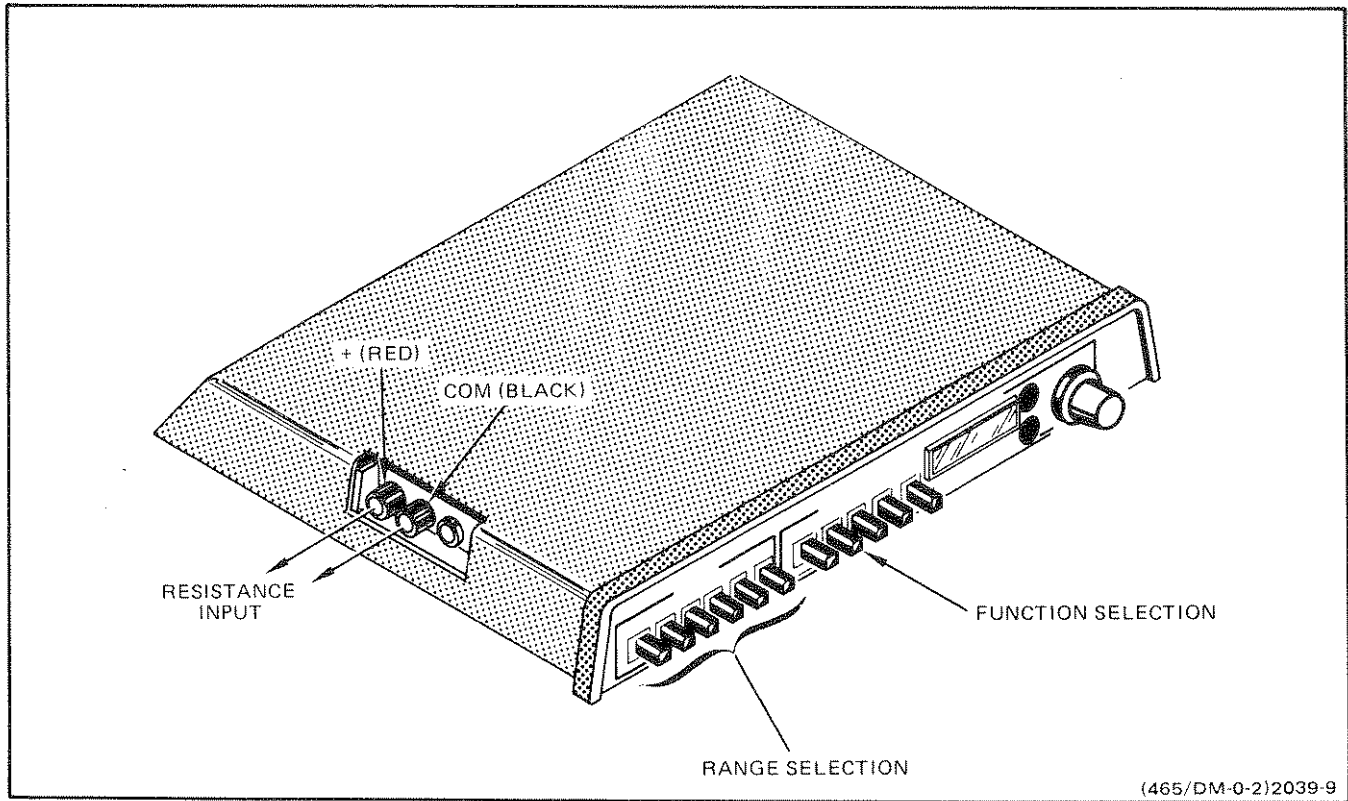

Fig. 8. Resistance.
1. Push in the OHMS FUNCTION button and the 20 M Ω RANGE button. See Fig. 8.